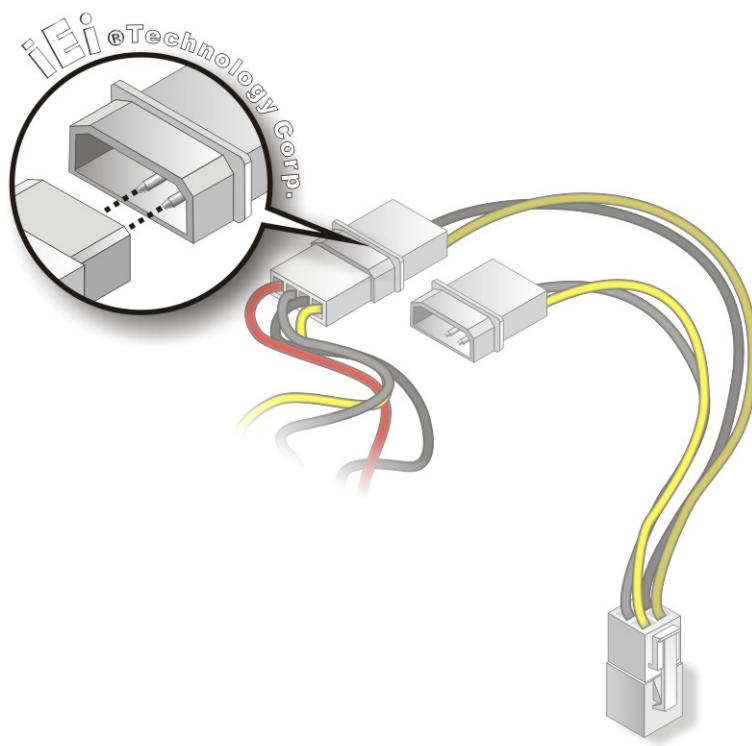

Figure 4-12: Connect Power Cable to Power Supply
Step 3: Connect Power Cable to Power Supply. Connect one of the 4-pin (1x4) Molex type power cable connectors to an AT/ATX power supply. See Figure 4-12.